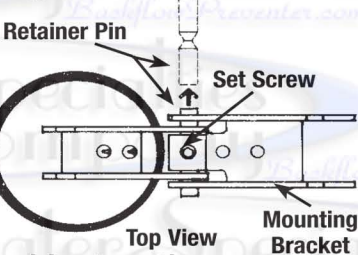

Fig. 3
4. Reach in through the access opening and remove the entire clapper assembly, opening the clapper assembly and laying it flat on a table. (Refer to Fig.3)
6. Slide out the retainer pin to separate the disc assembly from the mounting bracket. **Important:** Each check repair kit fits (1) one check module.